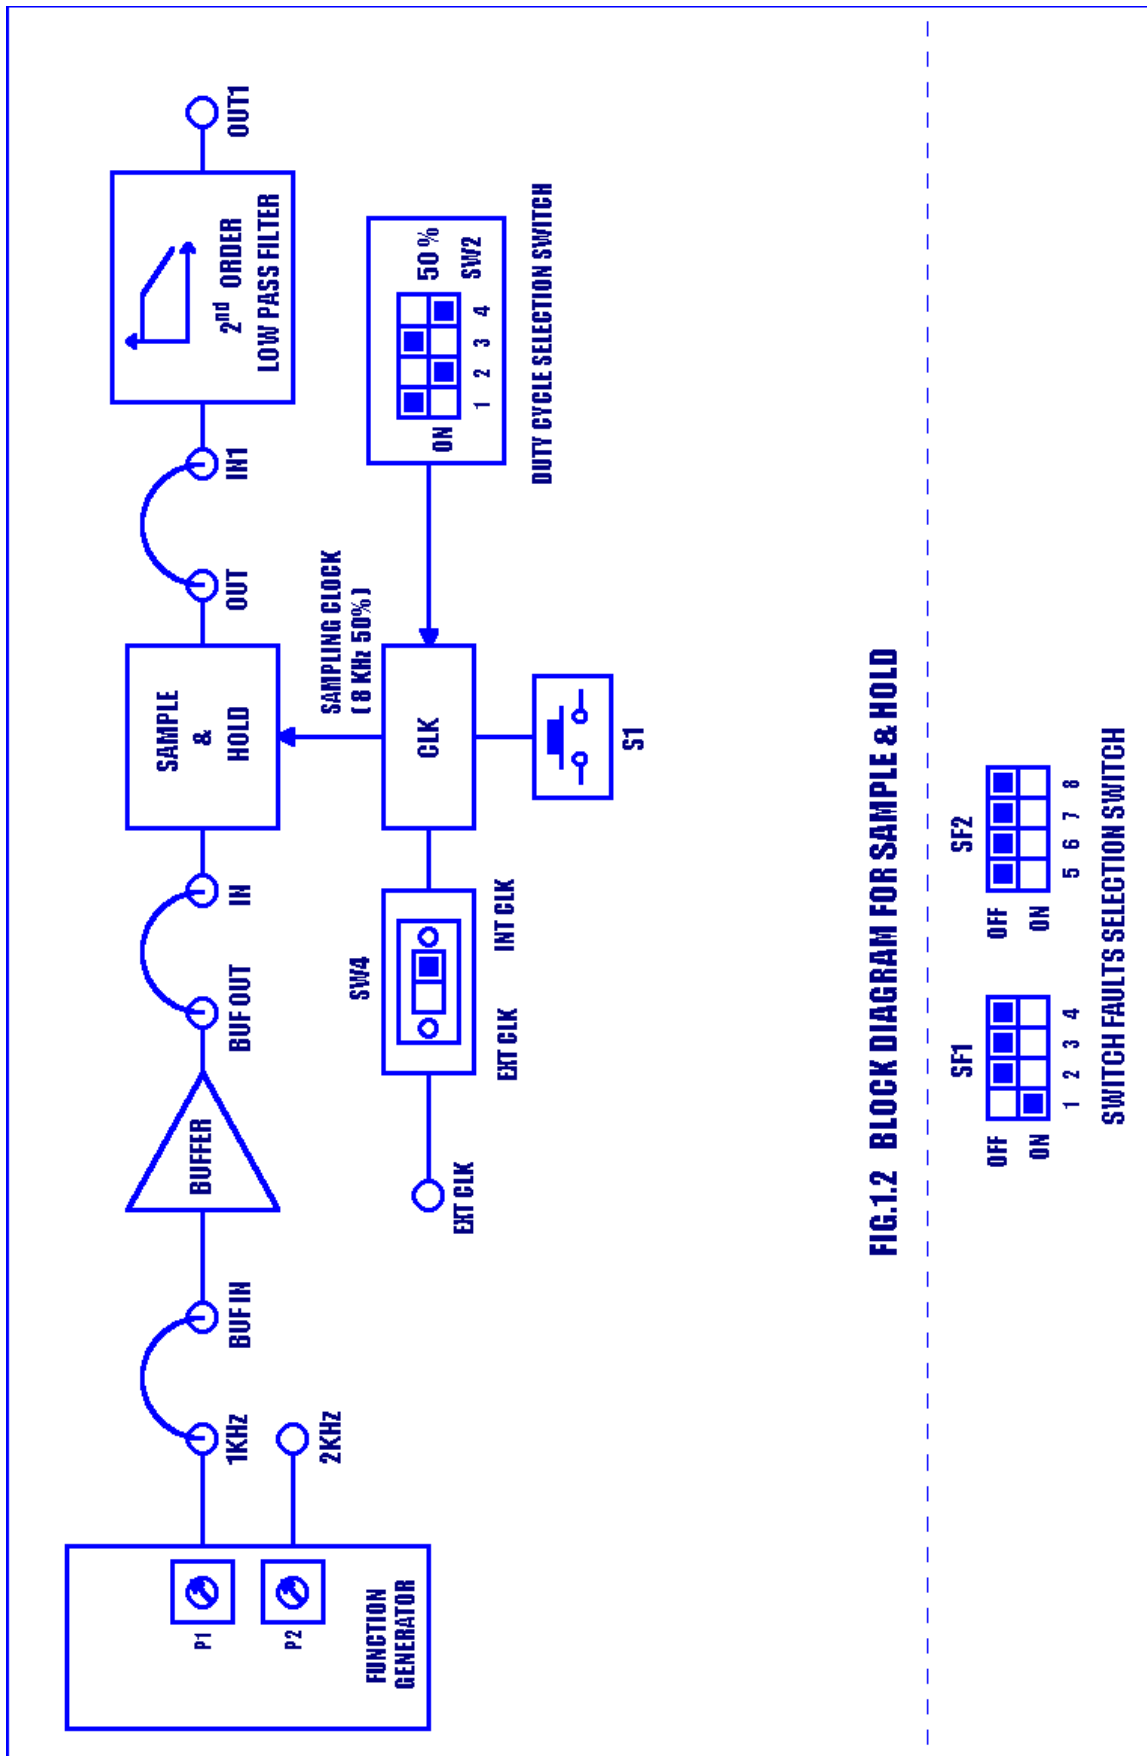

FIG.1.2 BLOCK DIAGRAM FOR SAMPLE & HOLD
1. Refer to the Block Diagram (Fig. 1.2) & Carry out the following connections and switch settings.